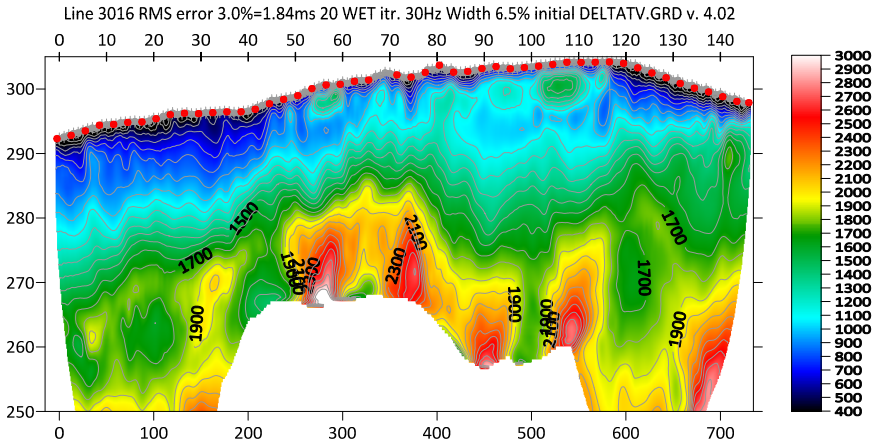

Fig 29 : same as Fig. 23 but decreased WET wavepath frequency to 30Hz from default 50Hz.
Next we redo Fig. 23 with same parameters but using WET *wavepath frequency* of 30Hz instead of default 50Hz to obtain Fig. 29 :
Compare Fig. 29 WET tomogram with Fig. 23. The low-velocity layer in overburden is imaged a bit less clearly in Fig. 29. But there are fewer vertical artefacts in Fig. 29 in overburden due to wider wavepaths. For Fig. 30 and Fig. 31 we increase lateral smoothing with half-width of *WET smoothing filter* set to 10 columns instead of default 7 grid columns for minimal WET smoothing.
Here is DropBox link to .RAR archive with seis32.* profile database files for Fig. 29.
Here is DropBox link to .RAR archive with TOMO folder files for Fig. 29.
In Fig. 40 we show another sample WDVSTIME.GRD obtained during WET inversion using DeltatV starting model (Fig. 29). We imaged this WDVSTIME.GRD using Surfer 23 as described below Fig. 19.
Note the asymmetry of the *WDVS* area in Fig. 40 determined by maximum delay time of 0.015 seconds (one period for *WDVS frequency* of 66Hz) along radial scan lines. This asymmetry is caused by decreasing grid velocity towards upper left of *WDVS* area compared to lower right of *WDVS* area. See Fig. 29 at elevation 285m and horizontal offset 260m. For *WDVS* theory see (Zelt and Chen 2016) Fig. 4 and equation (1).
In Fig. 41 we show another sample WDVSTIME.GRD centered at elevation 295m and horizontal offset 734m with *WDVS frequency* set to 100Hz (Fig. 27). One period amounts to 0.010 seconds. Compare with Fig. 29 to explain the shape of the *WDVS* area.